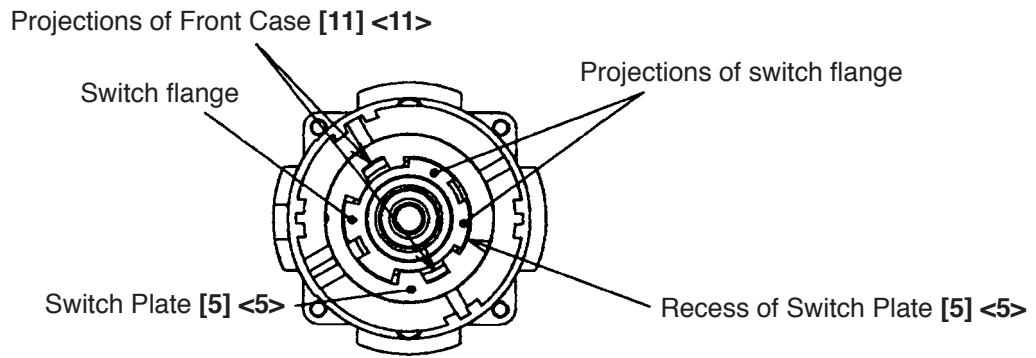
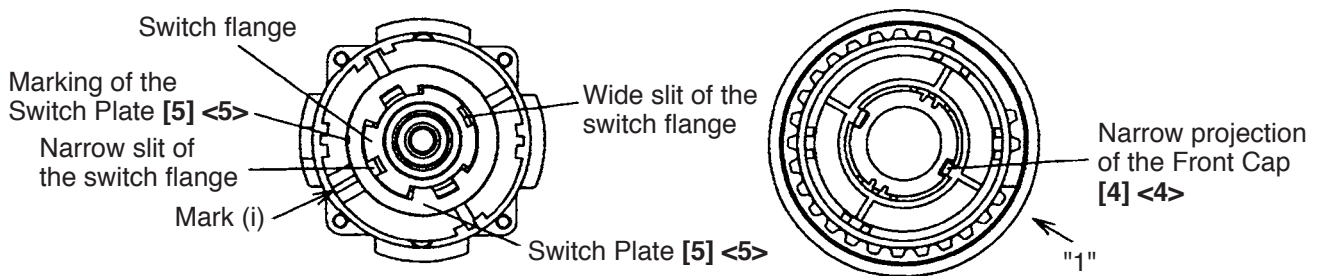

Fig. 4
Fig. 16
Turn the switch flange so as to fit the projection of the switch flange to the recess of the Switch Plate [5] <5>, then remove the Switch Plate [5] <5> from the Front Case [11] <11>. (See Fig. 4.)
- ① Mount the Switch Plate [5] <5> aligning with the projections of the Front Case [11] <11> as shown in Fig. 4.
- ② Mount the Click Spring [12] <12> to the Front Case [11] <11>.
- ③ When the Nut [6] <6> is screwed in the Front Case [11] <11> about 1-11/12 turns (690°), the mark (i) of the Nut [6] <6> and the marking of the Switch Plate [5] <5> are positioned as shown in Fig. 16. Set the narrow slit of the switch flange as shown in Fig. 16. Mount the Front Cap [4] <4> aligning the narrow projection of the Front Cap [4] <4> with the mark (i) of the Nut [6] <6>. (The narrow projection of the Front Cap [4] <4> is positioned at "1" when viewed from the outside.)